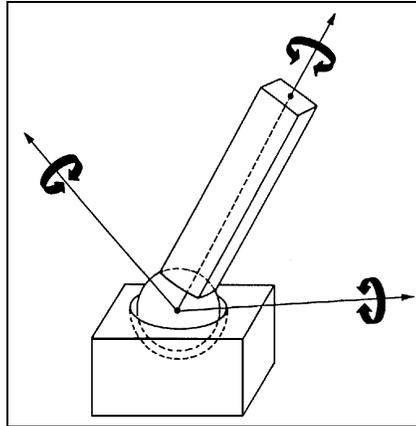

Figure 1-12
- ◆ **Spherical Joints:** The spherical (or ball-in-socket) joint is equivalent to three intersecting revolute joints. This joint permits one link to rotate about three different axes relative to the other link, as shown in Figure 1-12.